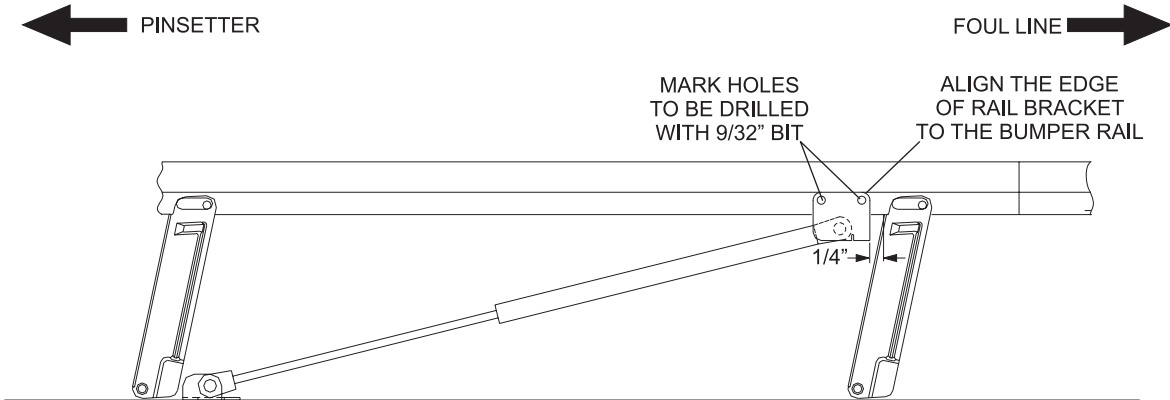

Figure 4
8. Pivot the gas spring and rail bracket assembly from the gutter mounting bracket and position the rail mounting bracket against the bumper rail. Position the rail mounting bracket a 1/4" away from the upright. With the felt tip marker, accurately mark the position of the (2) holes in the rail mounting bracket, 84-200688-000, on to the bumper rail. Refer to *Figure 4*.
9. With a 9/32 drill bit, drill through both walls of the plastic bumper rail at the marked positions. The rail mounting bracket, 84-200688-000, may be used as a drill fixture if necessary. Refer to *Figure 4*.